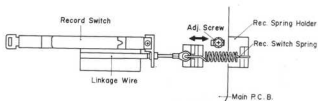

Fig. 5.18.1
- (1) Set the N-581 in stop mode.
- (2) Loosen the screw of the Record Spring Holder, and shift the Record Spring Holder in order to remove the looseness of the Linkage Wire as shown in Fig. 5.18.1. Then tighten the screw for fixing the Record Spring Holder.